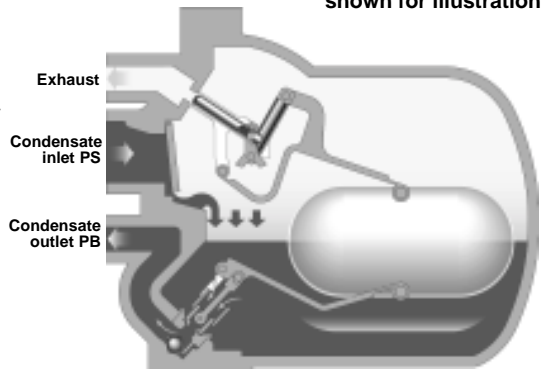

Fig. 6
Step 1 (Fig. 6)
The APT10-2 automatic pump trap operates on a positive displacement principle. Condensate enters the body through the inlet swing check valve causing the float to rise. The float is connected to the trap mechanism via a lever to pivot arrangement. If the upstream system pressure PS is sufficient to overcome the back pressure PB (Fig. 6), the build up of condensate will be discharged through the opening trap mechanism. In this way, the float will automatically modulate according to the rate of condensate entering the APT10-2, controlling the rate of opening and closure of the trap.